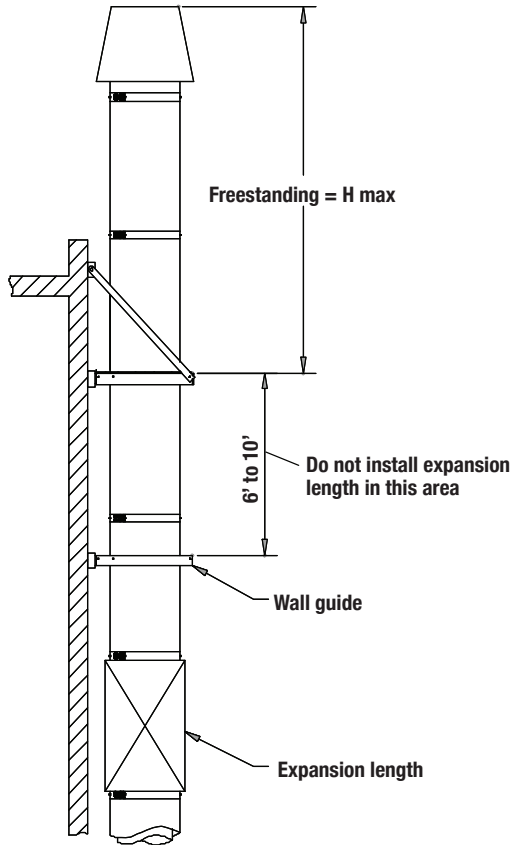

Figure 30 - Special considerations for exterior installation
4. Special considerations must be taken when installing on exterior wall. A wall guide must be installed between 6' and 10' below the highest wall support to stabilize the free standing portion of the chimney. Do not install a expansion length in this area due to bending forces induced by the freestanding portion. See **Figure 30** (special considerations).